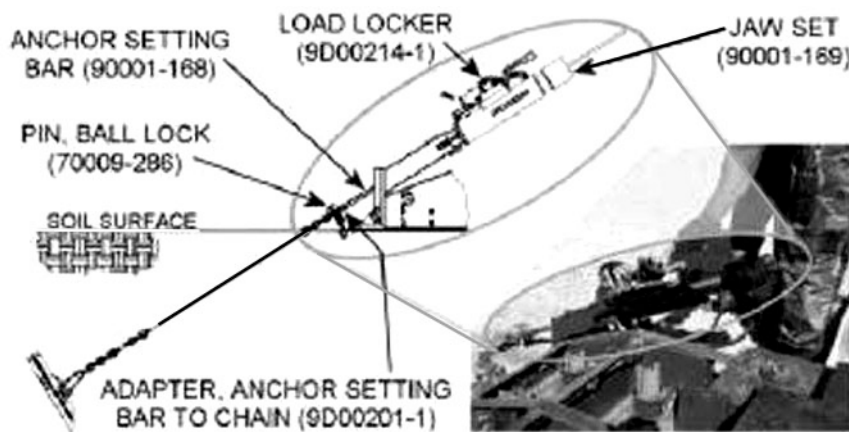

Figure 1-56. Manta ray load locker.
10. Pull upward on the hydraulic breaker to remove the drive gad assembly parts from the Manta ray anchor assembly. If the drive gad assembly does not break free immediately, pull up on the hammer while engaging the trigger to “creep” the drive gad assembly up and out of the anchor. Refer to figure 1-56, Manta Ray Load Locker.